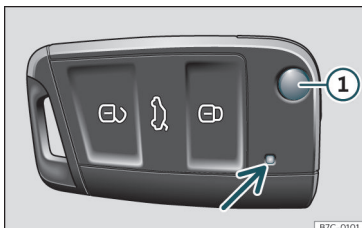

Fig. 108 Vehicle key
When a button on the vehicle key is pressed, the control lamp flashes »» Fig. 108 (arrow) once briefly, but if the button is held down for a longer period the control lamp flashes several times, such as in convenience opening.
Press button ① »» Fig. 108 to unlock and unfold the key shaft.
- If the buttons of the vehicle key are pressed >>> Fig. 108 or one of the central locking buttons >>> page 117 is pressed repeatedly in short succession, the central locking briefly disconnects as protection against overloading. The vehicle is then unlocked. Lock it if necessary.